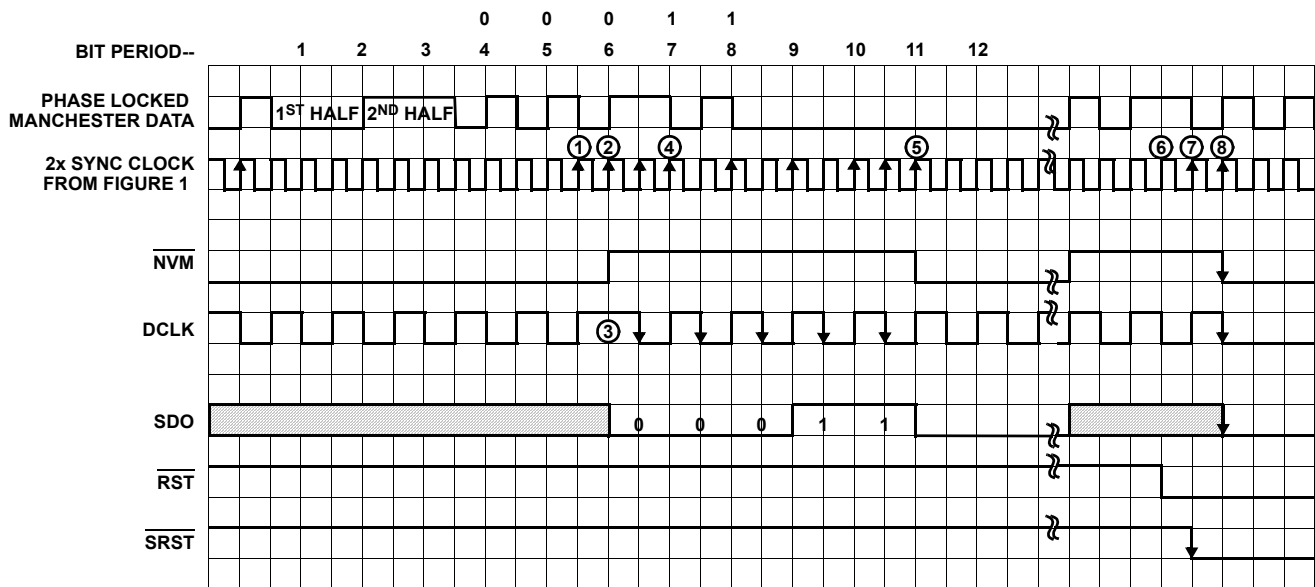

FIGURE 3. DECODER TIMING DIAGRAM
*This portion of the circuit may be tested by using the HD-6409 for a standard decoding operation while ensuring there is invalid data present both before and after the valid synchronization sequence and Manchester data. The NVM line should toggle to indicate the presence of the invalid data (refer to Figure 3).*
*The phase shifter may be tested by phase adjusting the input Manchester data with respect to the DCLK output signal. The DCLK signal should always go high coincident with the NVM recognition of a valid data sequence, or should remain high at this point and become 180° phase shifted. The following DCLK falling edge may then be used for latching the first serial data bit at SDO (refer to Figure 3).*
Figure 3 further illustrates the relationships between the various decoder input and output signals. The phase locked Manchester data is shifted into the 10-stage shift register of the sync recognition circuit on every rising edge of the 2x synchronous clock (Note that the 2x clock signal is provided by the DPLL circuit and is continuously being adjusted to match the incoming data). Bit periods 1-5 provide the sync pulse and 2 valid Manchester bits. This data is shifted into sync recognition position at clock edge ①.